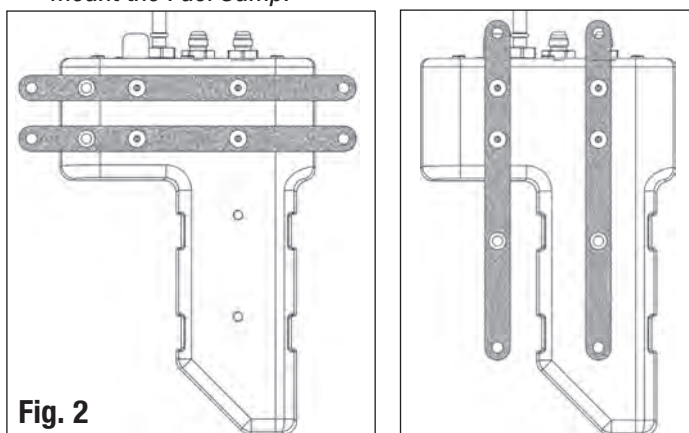

Fig. 2
3. Determine the ideal mounting location for the Fuel Sump using the supplied mounting hardware and brackets. The universal mounting brackets included in this kit can be mounted horizontally or vertically as shown below (see fig. 2).